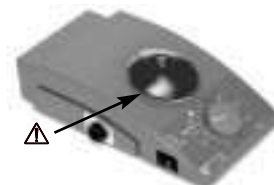

Fig. 1: point of danger
- Never touch moving parts (risk of crushing, impact and cutting, see fig.1: point of danger)!